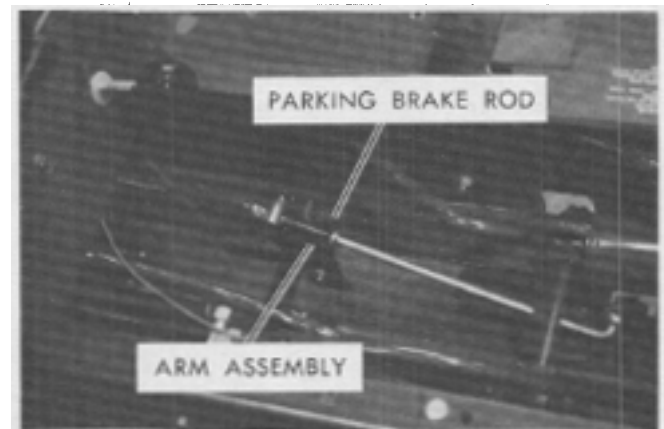

FIG. 11. Parking Brake Adjustment
4. If the speed control lever can be moved toward either position, shorten the length of the parking brake arm assembly rod (see Fig. 11) by turning the nut against the trunnion.